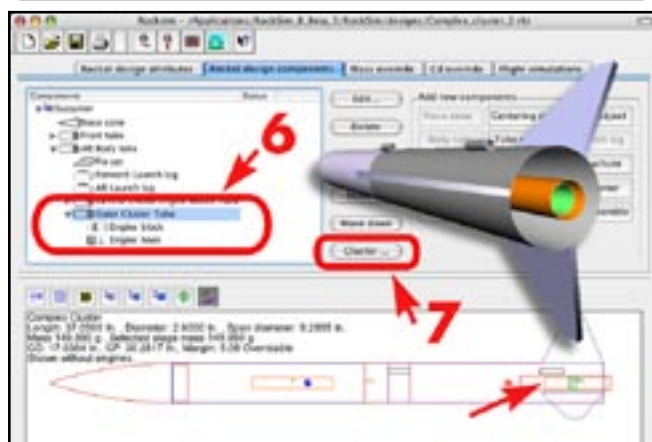

Figure 6
6. We'll now repeat steps 1 through 5, and create a single (yep, just *ONE*) engine mount tube for the outer cluster ring of motors. It should look like the 3D picture (inset on Figure 6). The green tube will be duplicated by the cluster wizard process, so don't worry that you don't have enough engine mounts yet.